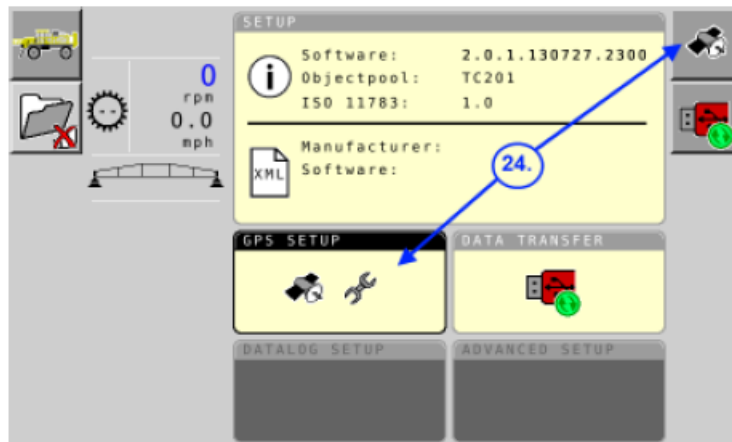

Figure 23.
24. Select *GPS Setup*.{Figure 23}